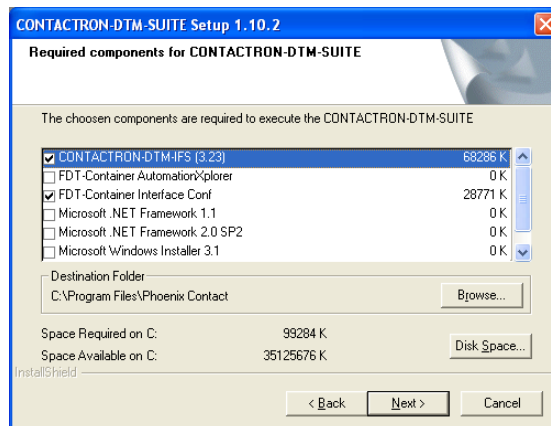

Figure 3-29 CONTACTRON DTM - Selection for PC WorX
- In the "Required components..." window, select the entry highlighted in Figure 3-29.